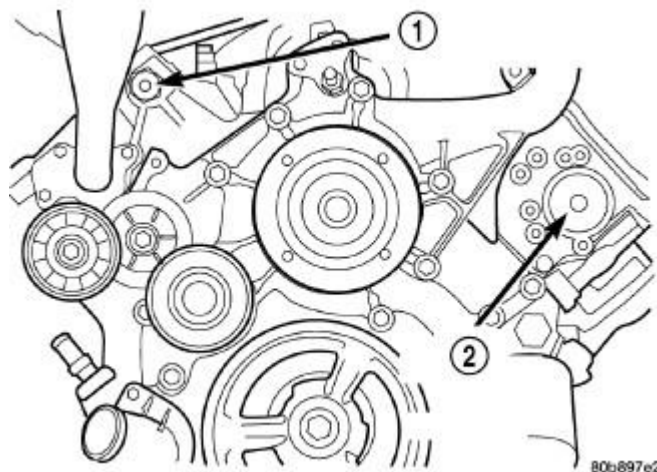

Fig. 59: Access Plugs From Left And Right Cylinder Heads
10. Install the cylinder head access plug (1, 2). Refer to **Fig. 59**.